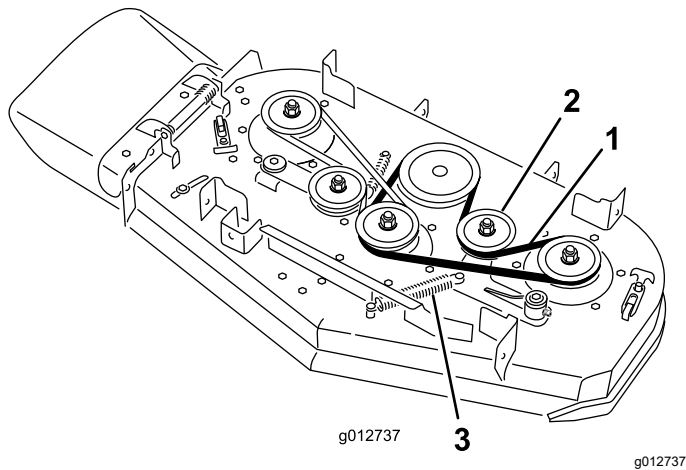

Figure 65
- A. Remove the spring from the anchor post on the idler-pulley arm (Figure 65).
- B. Remove the worn mower belt (Figure 65).
- C. Install a new mower belt around the deck pulleys, the clutch pulley, and the idler pulley (Figure 65).